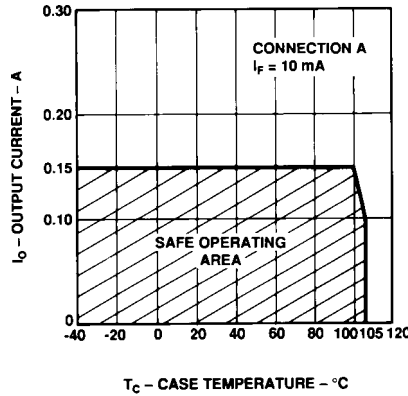
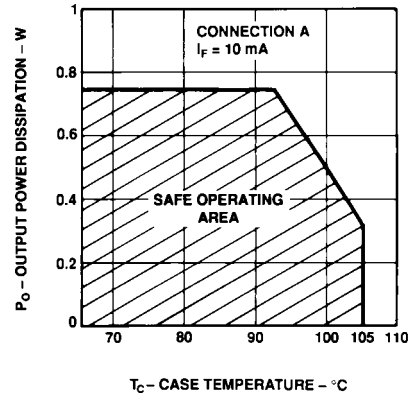

Figure 3B. Maximum Average Output Current Rating vs. Case Temperature.
Figure 4. Output Power Derating vs. Case Temperature.
- For derating, see Figure 4. The output power P_O derating curve is obtained when the part is handling the maximum average output current I_O as shown in Figure 3.
Derating curves are shown in Figures 3 and 4. Figure 3 specifies the maximum average output current allowable for a given ambient or case temperature. Figure 4 specifies the output power dissipation allowable for a given case temperature. Above a case temperature of 93°C , the maximum allowable output current and power dissipation are
related by the expression $R_{SS} = P_O(\text{max})/(I_O(\text{max}))^2$ from which R_{SS} can be calculated. Staying within the safe area assures that the steady state junction temperatures remain less than 125°C . As an example, for a case temperature of 100°C , Figure 4 shows that the output power dissipation should be limited to less than 0.5 watts. A check with Figure 3B shows that the output current should be limited to less than 150 mA. This yields an R_{SS} of 22Ω .